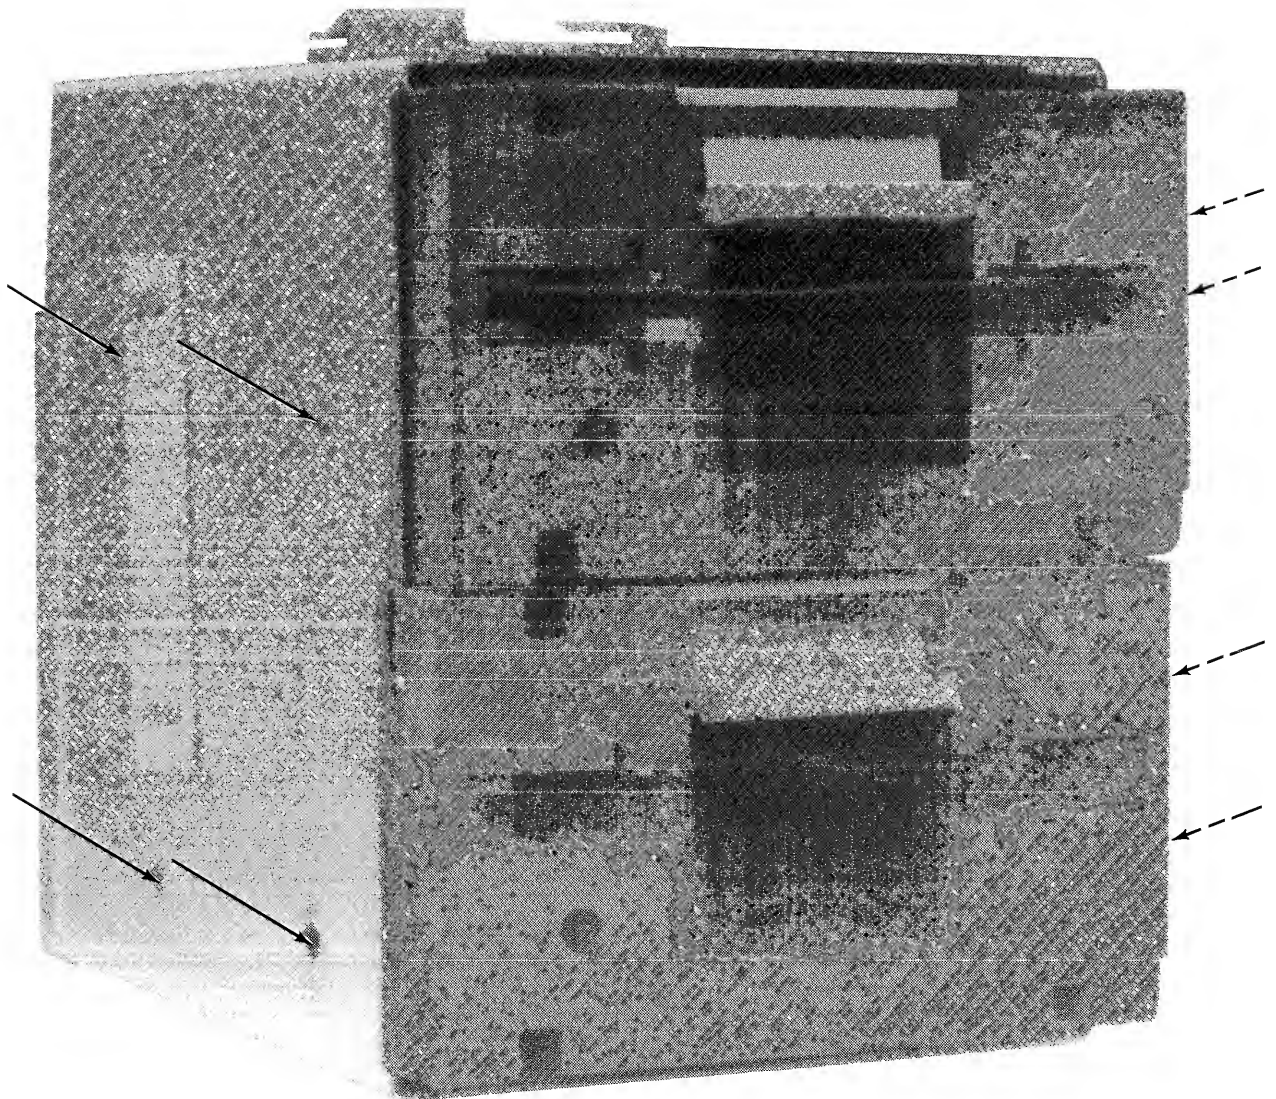

Figure 2-4. Mini Drive Mount Screw Locations on Shield Box
- f. Remove the four screws and washers that attach the shield box to the mainframe. See figure 2-4.